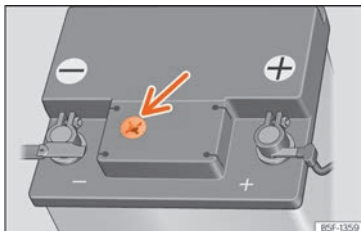

Fig. 180 Sight glass on the top of the 12 volt battery (schematic representation).
- Check the colour display in the sight glass on the top of the battery >>> Fig. 180.